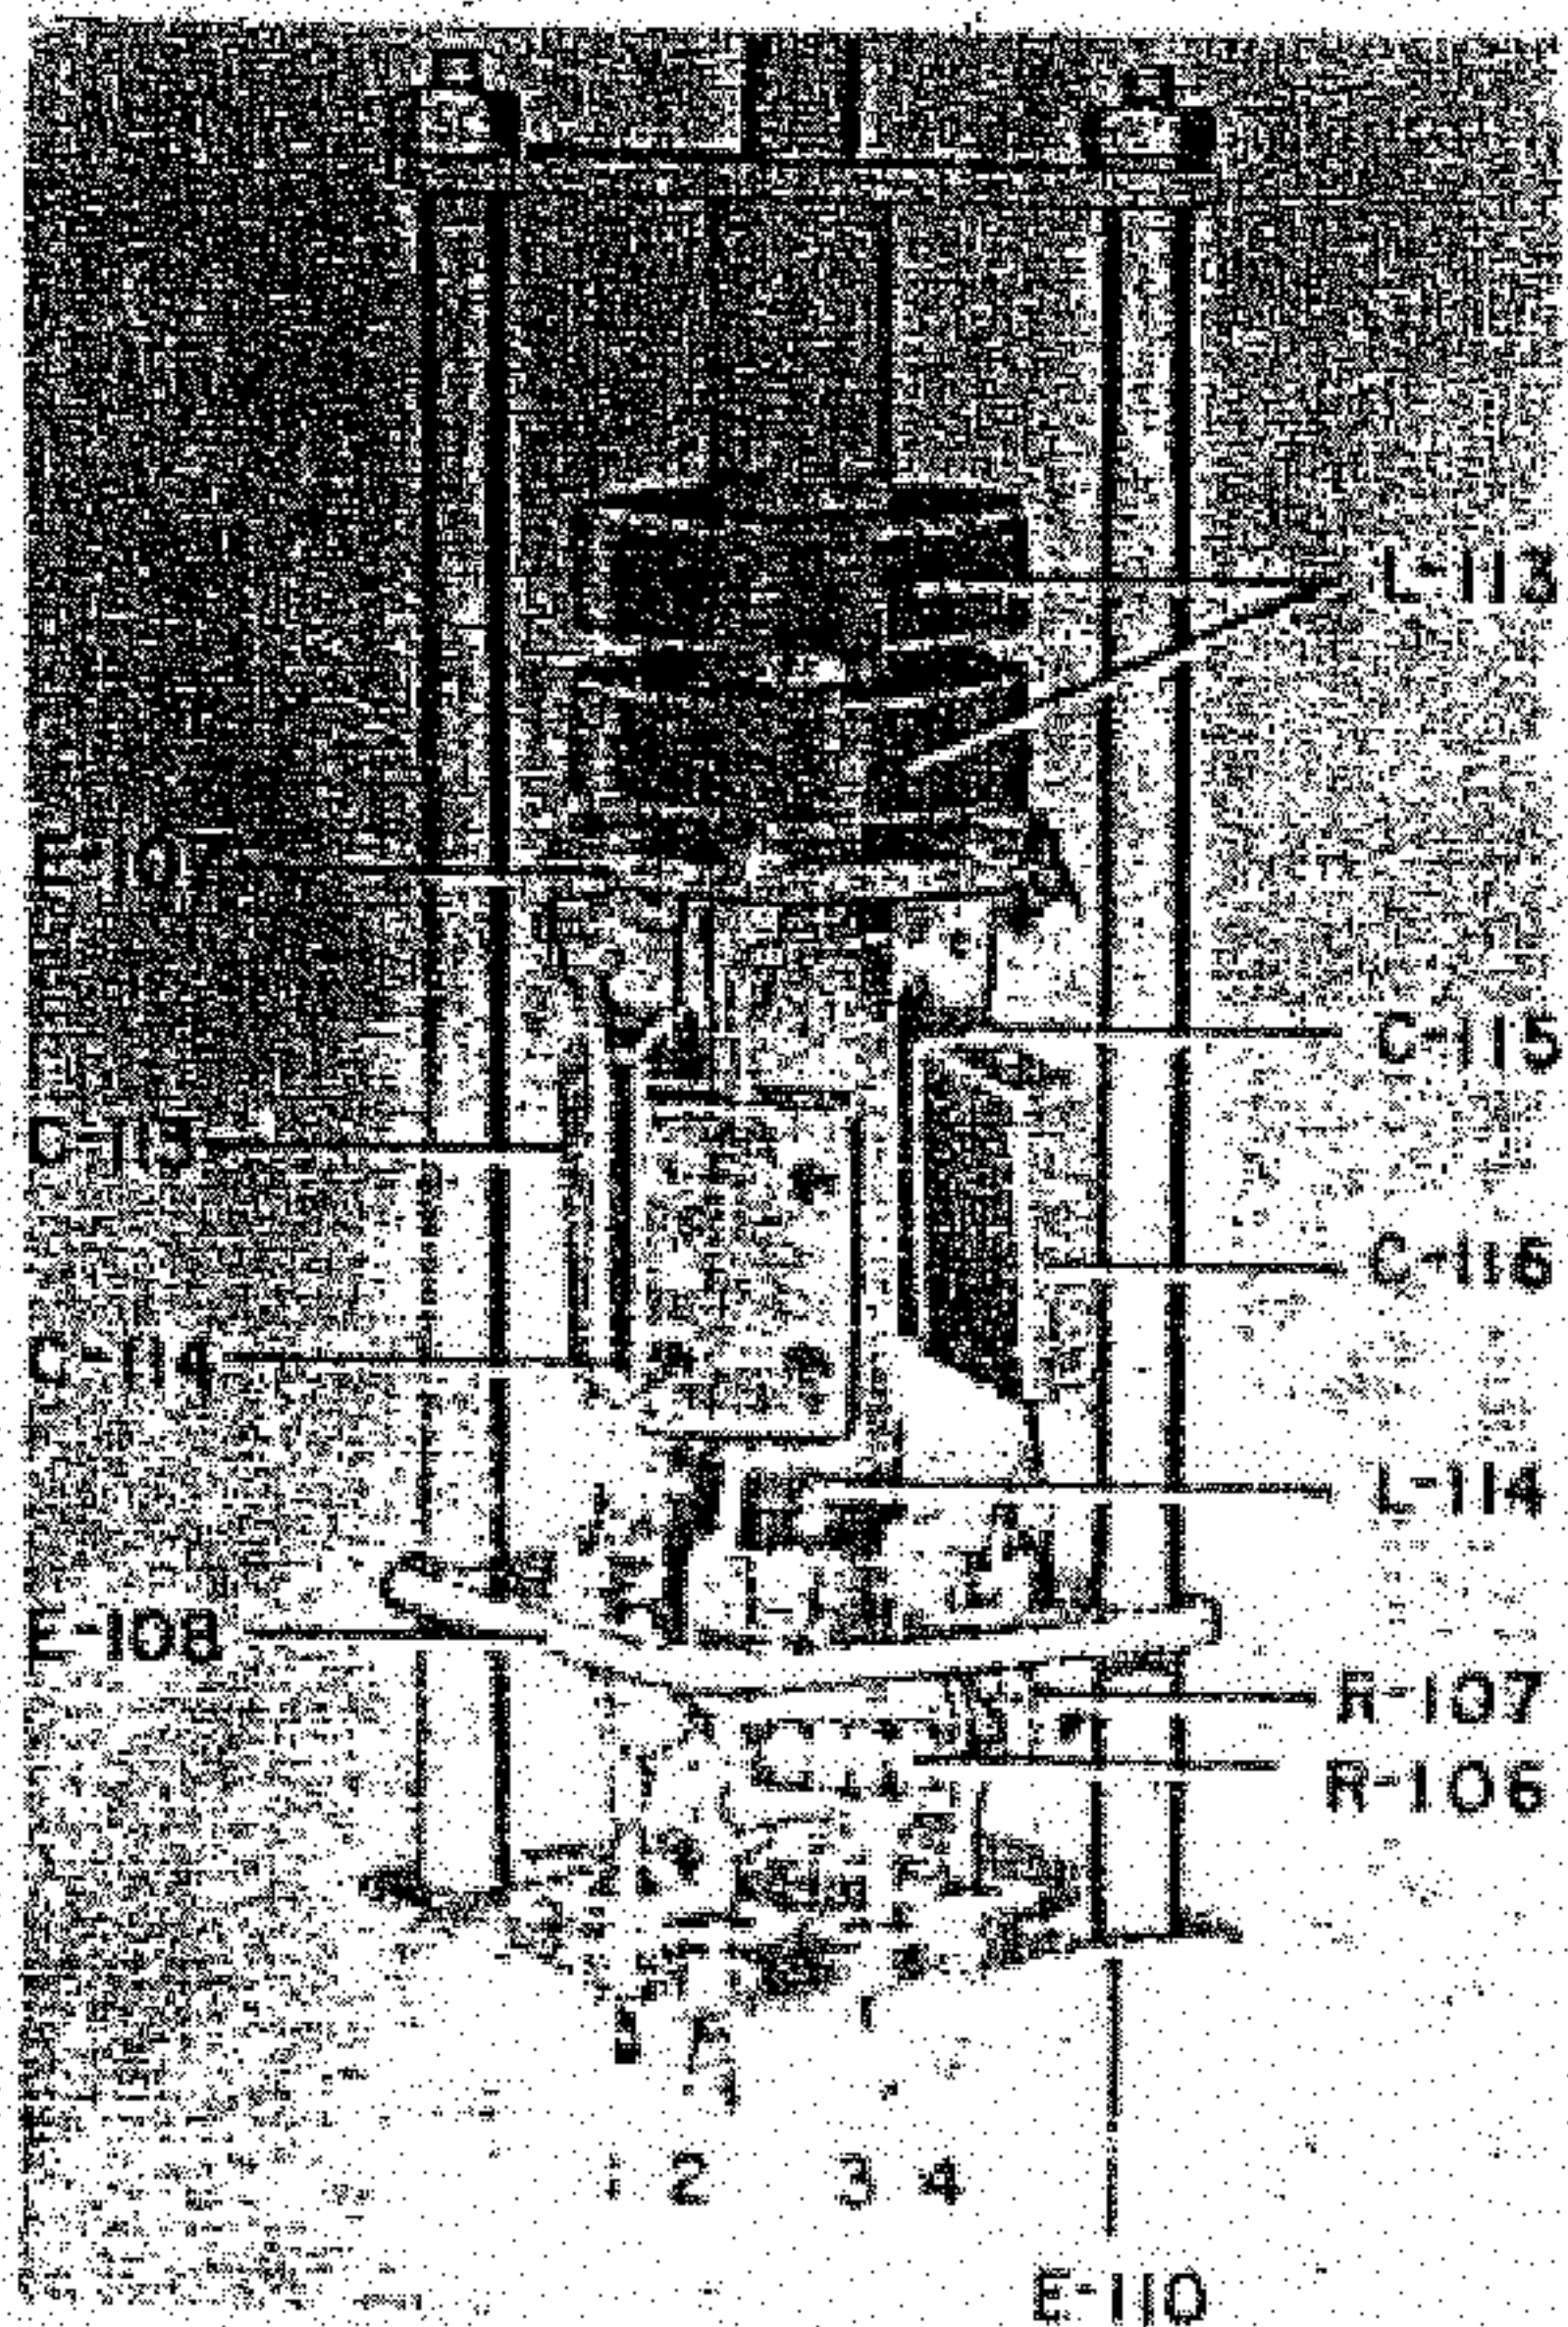

Figure 5-23. Phaser L-102, Cover Removed
**(2) LOOP AMPLIFIER TEST.**—Measure the socket voltages of loop amplifier tube V-101 and compare with the readings in table 5-3 or 5-4. If any considerable variation from the chart values are noted, check the wiring and components for open or short circuits. If the socket voltages are correct and reception is poor on all bands, check the components of the phaser L-102. Carefully check L-114 in the phaser, figure 5-23. To check L-114 it will be necessary to remove the shield. If reception is poor on one or two bands and the above checks do not reveal the trouble, check